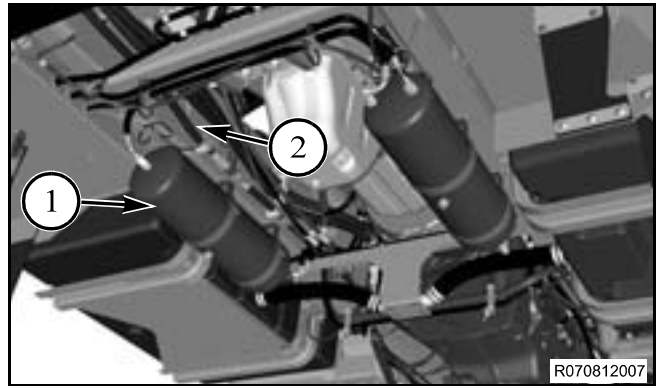

FIG. 29
FIG. 29: Dry tank (1) is mounted to bottom of right-hand frame rail (2). Dry tank may collect slight condensation that can be released by operating drain valve on bottom of tank.